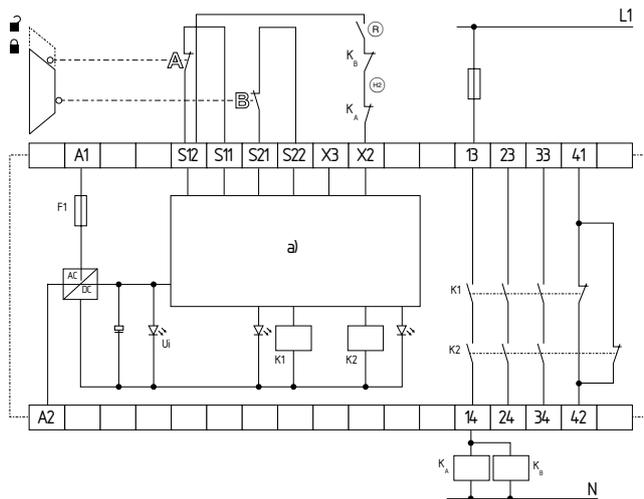

Fig. 2
Dual-channel control, shown for a guard door monitor with two position switches A and B where one has a positive break contact; with external reset button (R) (see Fig. 2)
- (R) = Feedback circuit